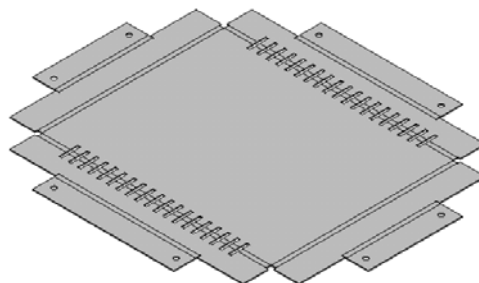

Figure 16-160 Model after patterning the cut feature
5. Pattern the cut feature. The model after patterning the cut feature is shown in Figure 16-160.